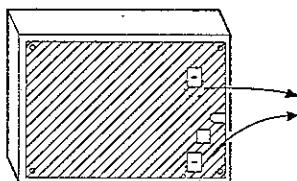

Fig. 4
① Choose a flat table.
② Lay down the drawer so that the left side faces downward.
③ With the cushion areas of the fixtures directed to the drawer bottom, insert them in two holes at the left side (looking from the front) so that the drawer bottom plate can be inserted in the U-shaped grooves of the fixtures. These fixtures must be fitted in the same direction and level. (See Fig. 4)